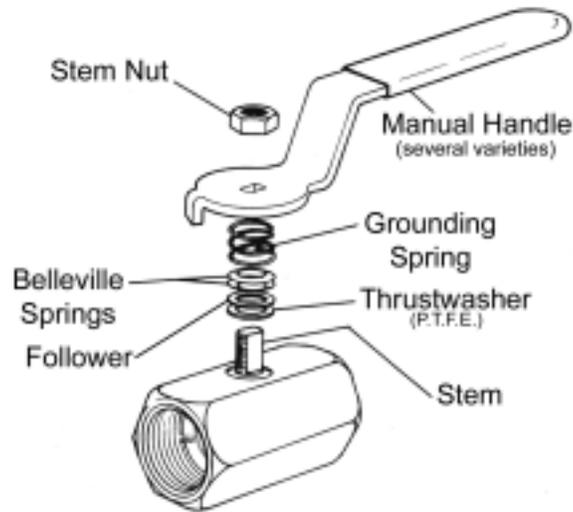

Figure 1
1. Remove the stem nut and handle. Remove the grounding spring. (If you valve has a second stem nut beneath the handle, remove it as well). Remove the two Belleville washers, the follower and the thrustwasher. (Figure 1)